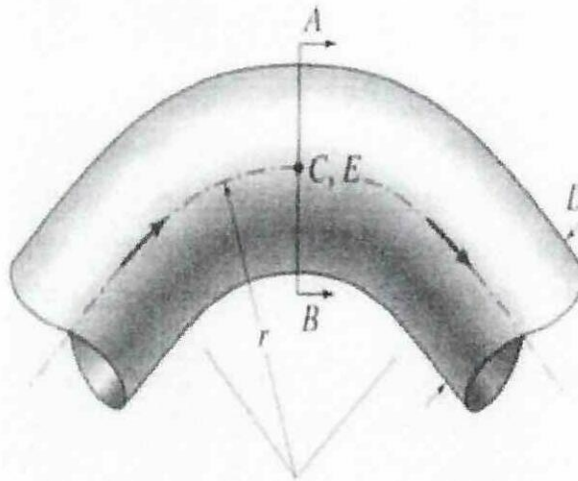

Figure Q4(b)
- (b) Refer to **Figure Q4(b)**, explain the local disturbance in pipe system. (6 marks)